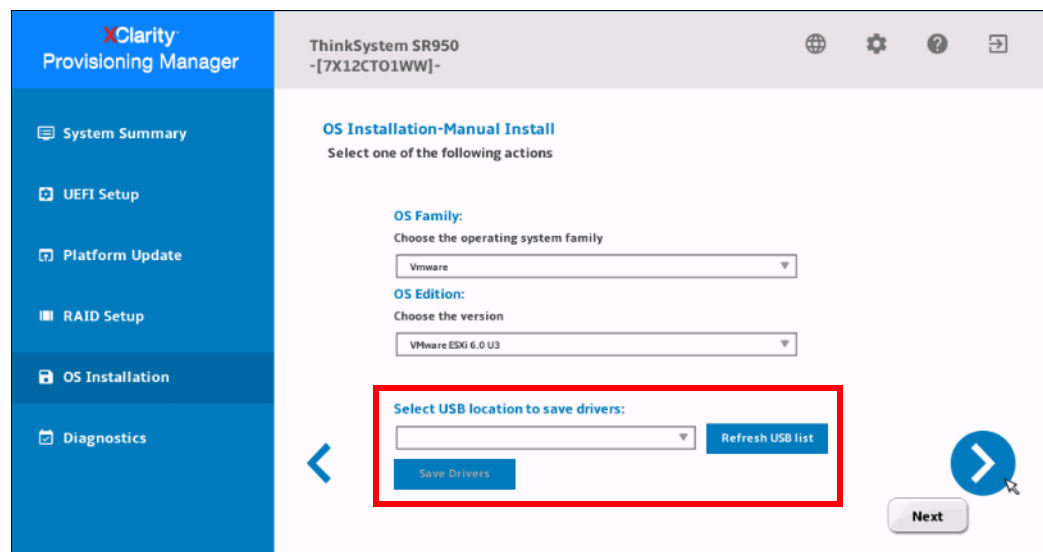

Figure 6-13 Select the location of the USB drive to save drivers
7. Select the **USB location to save drivers** to, as shown in Figure 6-13. This will create a local driver repository on the USB device which can be used during an OS installation or installed later.